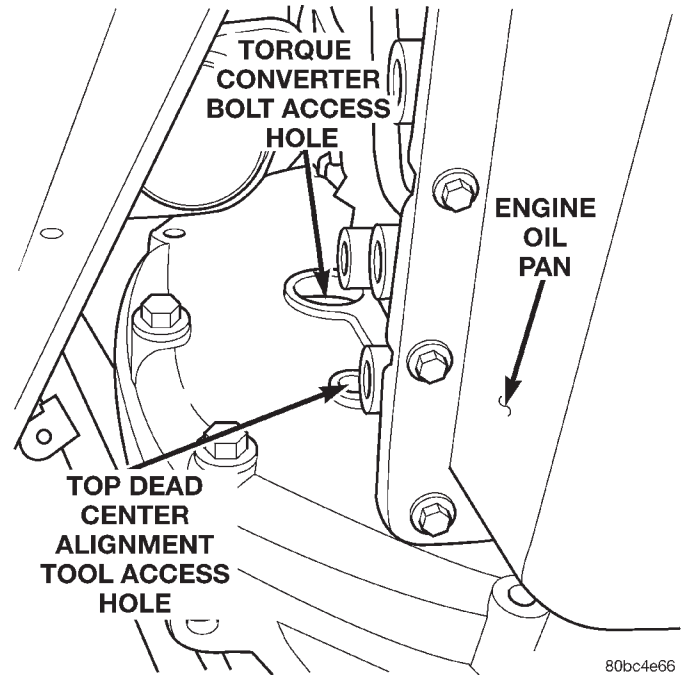

Fig. 16 Torque Converter Bolt Access Hole
(62) Working through the torque converter bolt access hole (Fig. 16), rotate the engine to access and remove the (4) torque converter to driveplate retaining bolts.
(63) Disconnect the engine ground. Located to the rear of the left engine mount.
(64) Remove the left engine mount throughbolt nut. Do not remove the bolt at this time.
(65) Support the rear of the transmission assembly with a jack.